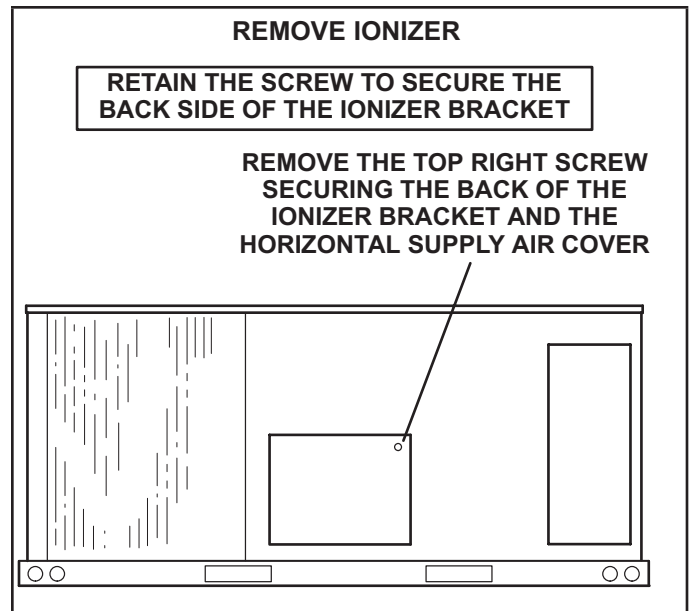

FIGURE 22
- 1 - On the back side of the unit, remove the screw securing the back of the ionizer bracket. See FIGURE 22. Retain the screw to secure the back side of the ionizer bracket.